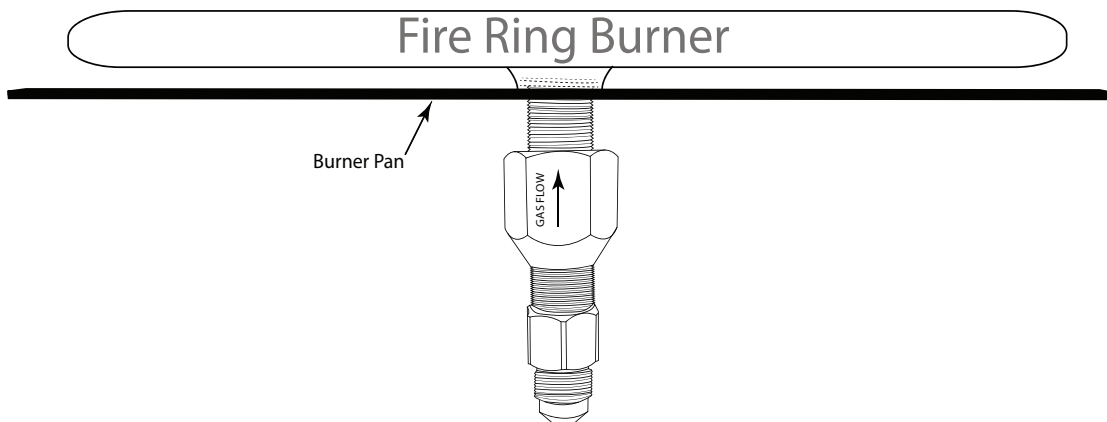
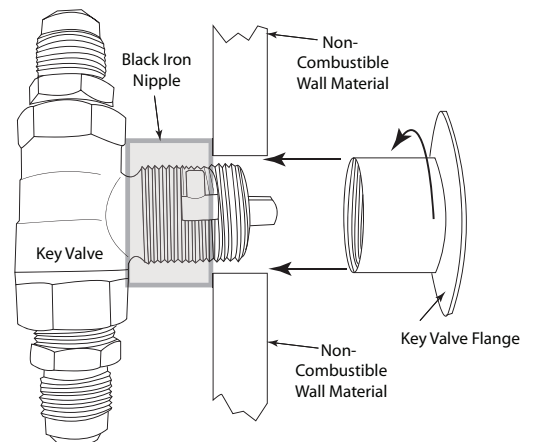

Fig. 8 Fire Ring Installed into Burner pan/disc.
Fig. 12 Typical installation.
Step 2: Install the fire ring through the pan (See Fig. 8) then install the OAS and U3-8D-S to the nipple connect inlet gas line as shown in Fig. 12 on page 10.
Step 2: Install the fire ring through the pan and connect inlet gas line as shown in Fig. 12 on page 10.
Note: Be sure to leak test all fitting before operation. Fig. 12 shows an example of a typical installation.